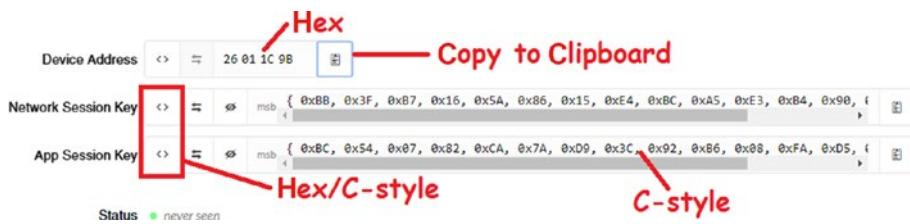

Figure 5-30. Copying keys to the clipboard
- For the Network Session Key and App Session Key fields, click hex/C-style buttons to view them in C-style. The Copy to Clipboard button can be used to copy them to the clipboard (Figure 5-30).